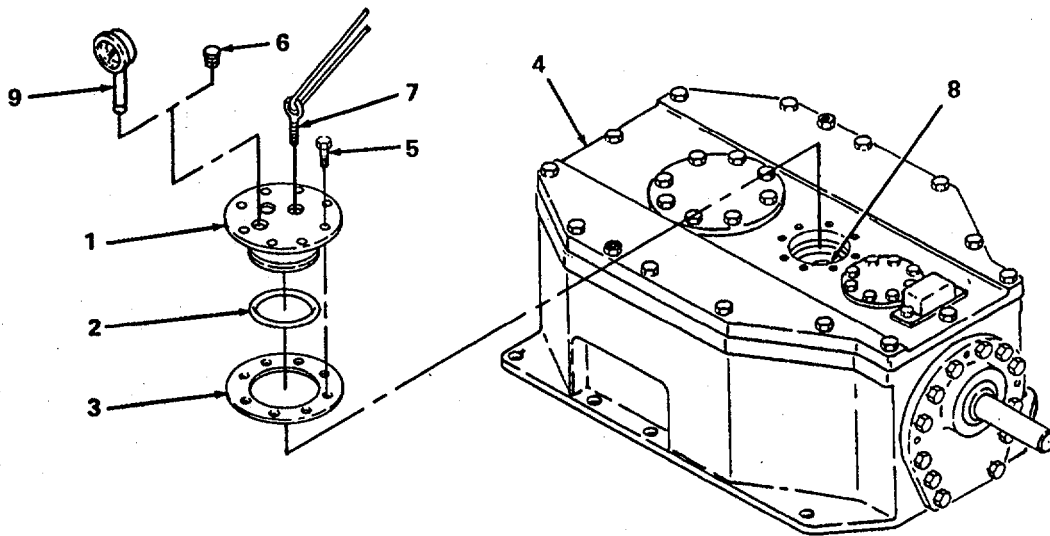

Figure 6-26. Adjusting Axial Float of Intermediate Shaft.
- (11) Adjust axial float of intermediate shaft.
- (a) Position top end cover (1, figure 6-26) with new O-ring (2) and new shims (3), plus one additional .015 inch shim, on main cover (4). Install eight screws (5) and tighten to torque specified in Appendix G.
- (b) Remove plugs (6) from end cover (1) and install eyebolt (7) in end of intermediate shaft (8) through holes in cover.
- (c) Position a dial indicator (9) against intermediate shaft (8) through remaining hole in end cover (1).
- (d) Observe dial indicator (9) while lifting intermediate shaft (8) to determine axial float.
- (f) Remove top end cover (1) and associated shims (3).
- (g) Remove shims (3) whose total thicknesses are equal to the difference between the measurement obtained in step d. and the high and low tolerance measurements calculated in step (e).
- (h) Reposition top end cover (1) with shims (3) in place. Install eight screws (5) and tighten to torque specified in Appendix G.